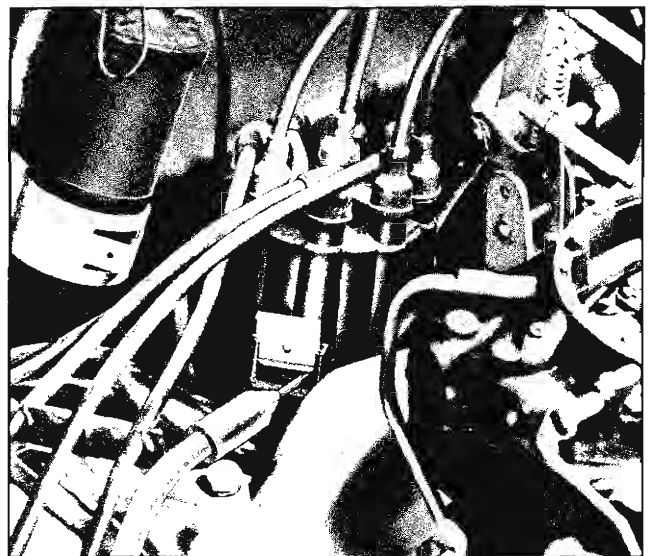

Fig. 11-41 Adjusting Dwell Angle
2. Insert a "Hex" type wrench into the head of the adjusting screw as shown in Fig. 11-41.
2. With the distributor operating, turn the adjusting screw (Fig. 11-41) until the proper dwell angle is obtained.